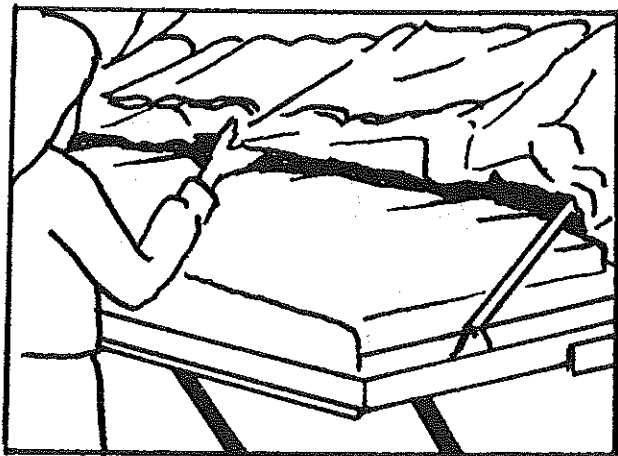

FIGURE 13
19. With both beds fully extended and supported, grasp the bottom edge of either the front or rear tent enclosure with hands approximately 2 1/2 feet apart and gently pull until the tent fabric is supported as pictured. See Figures 13 and 14.